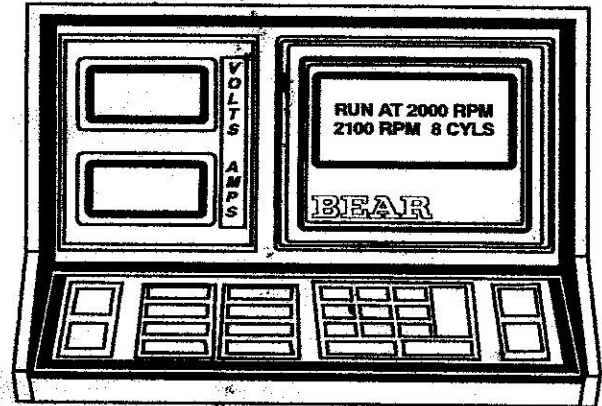

Figure 14
- C. Top line of display reads "RUN ENGINE AT 2000 RPM" (see Figure 14). Set engine speed to at least 2000 RPM. When computer detects RPM around 2000, display flashes "MAINTAIN 2000 RPM."